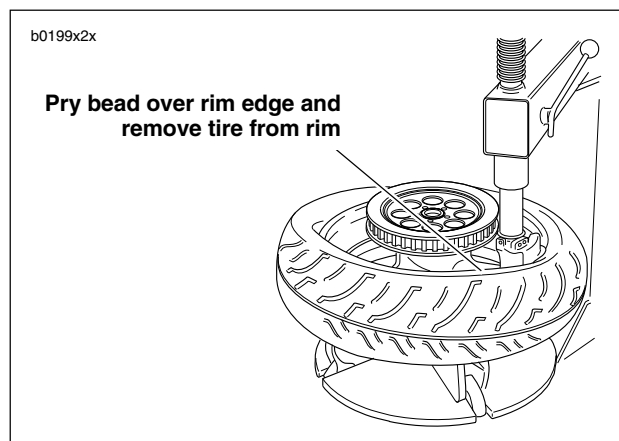

Figure 2-13. Starting Tire Off Rim
5. See Figure 2-13. Push lower bead into rim well on one side and insert tire tool underneath bead from opposite side. Pry bead over rim edge. Remove tire from rim.